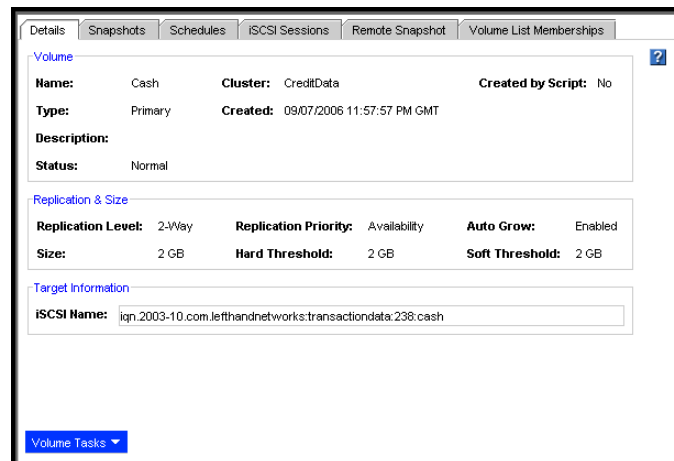

Figure 152. New Volume displayed in the Tab View
14. Select the new volume in the navigation window to display the information about it in the tab view, shown in Figure 152.